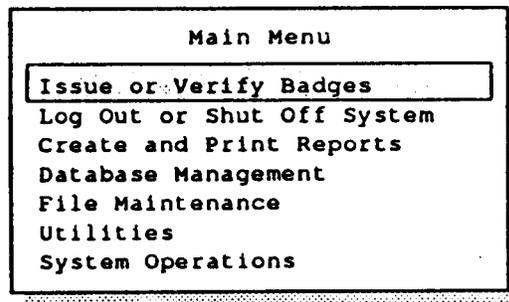

Figure 2-10 ID-3000 main menu
Wait for the Main Menu to appear (Figure 2-10). If the main menu fails to appear within a minute of startup, turn the system off and then on again and repeat the log-in procedure. If the main menu still fails to appear, refer to Section 3 of this Manual — On-Site Diagnostic Procedures.
1. After logging in and with main menu displayed (see Figure 2-10), select **Issue or Verify Badges** and press <Enter>.
1. After logging in and with main menu displayed (see Figure 2-10), select **Issue or Verify Badges** and press <Enter>. Check to make sure the Color Thermal Printer is turned ON.